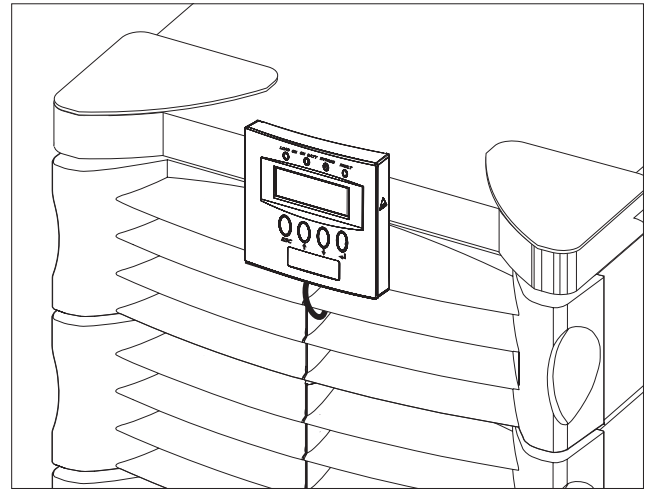

Fig 5-13 Install PowerView On The Frame
5. Position the PowerView over the mounting post on the front of the frame, and push straight down. The PowerView snaps into place. See figure 5-13.